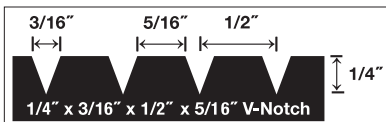

Figure 2
- 1/4" x 1/2" x 3/16" (6 mm x 13 mm x 5 mm) V-Notch trowel (Figure 2)